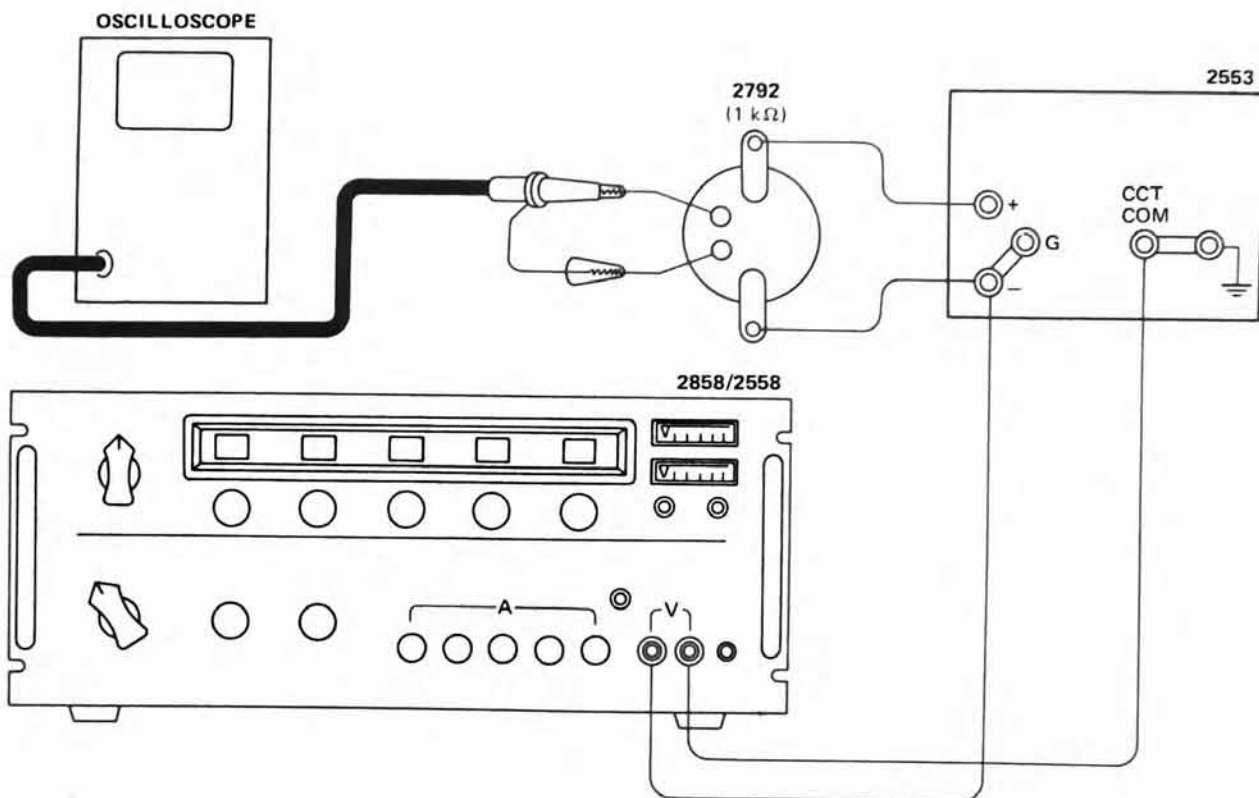

Figure 2-11. Setup for AC CMRR Inspection as Current Standard.
- Connect this instrument, oscilloscope, Type 2792 (1 k Ω) and Type 2858 as shown in Figure 2-11.